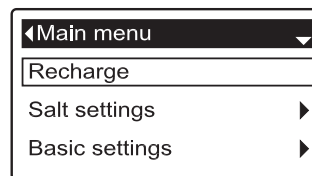

FIG. 16
During normal operation (status screens rolling), press the softener's SELECT (O) button to display the Main menu (See Figure 16). This menu and its subsidiary screens are used to control these softener operations: